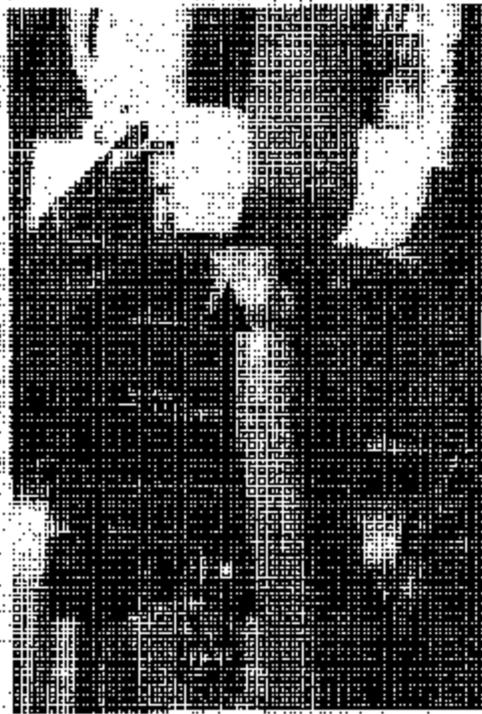

Fig. 2
- 1.2. Proceed from underneath the steering column, locate the Upper Steering Shaft Coupling Bolt referring to Fig. 2.